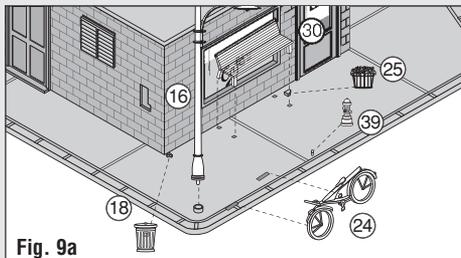

Fig. 9a
Left Side (Fig. 9a): Trashcan (18), Bench (30), Bike (24), Flowerpot (25), Lamppost (16), Fire Hydrant (39)